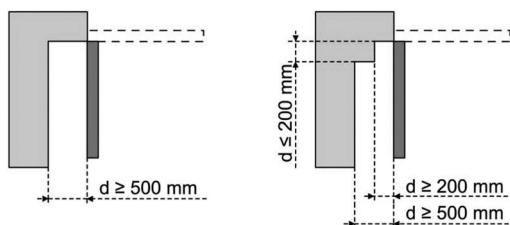

Figure 4 - Safety distance
ZONE 3 Risk of cutting or crushing with any adjoining fixed parts during opening	Eliminate all sticking points and all sharp edges from the surface of the door Eliminate any gap ≥ 8 mm or ≤ 25 mm Protection against crushing with an adjoining fixed part can be incorporated: - obstacle detection built into the motorisation. It must be imperatively checked that the obstacle detection complies with annex A of the standard EN 12 453. - via safety distances (see figure 4)
3.1 Installation height - Fig. 4